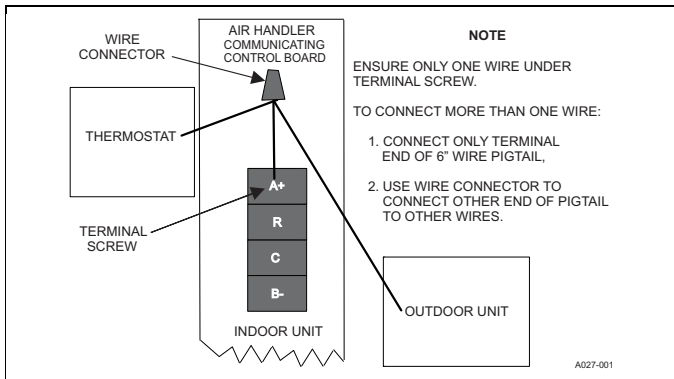

FIGURE 17: Multi-wire Terminal Connection
*Do not place more than one wire under any single communication terminal screw (there are four communication terminal screws). If more than one wire must be connected to a terminal screw, attach only the terminal end of a one wire pigtail no longer than 6", and use a wire connector to connect the other end of the pigtail to the other wires. Failure to do this will result in nuisance communication error faults. See Figure 17*